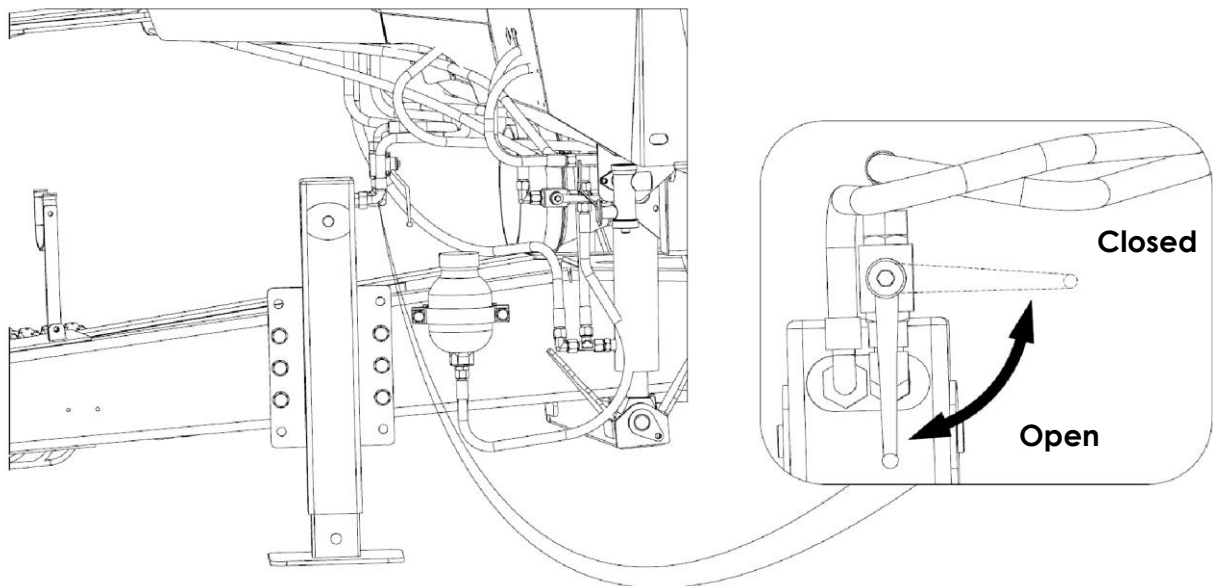

Figure 22. Hydraulic valve to control (shut off) the hydraulic parking jack
- 7) Close the parking jack locking valve (Fig. 22). If the tractor has too few hydraulic sockets for connection of other hydraulic systems, the hydraulic lines of the support leg can be disconnected for travel and operation. When disconnecting the hydraulic lines, make sure that the pressure in the lines is reduced.